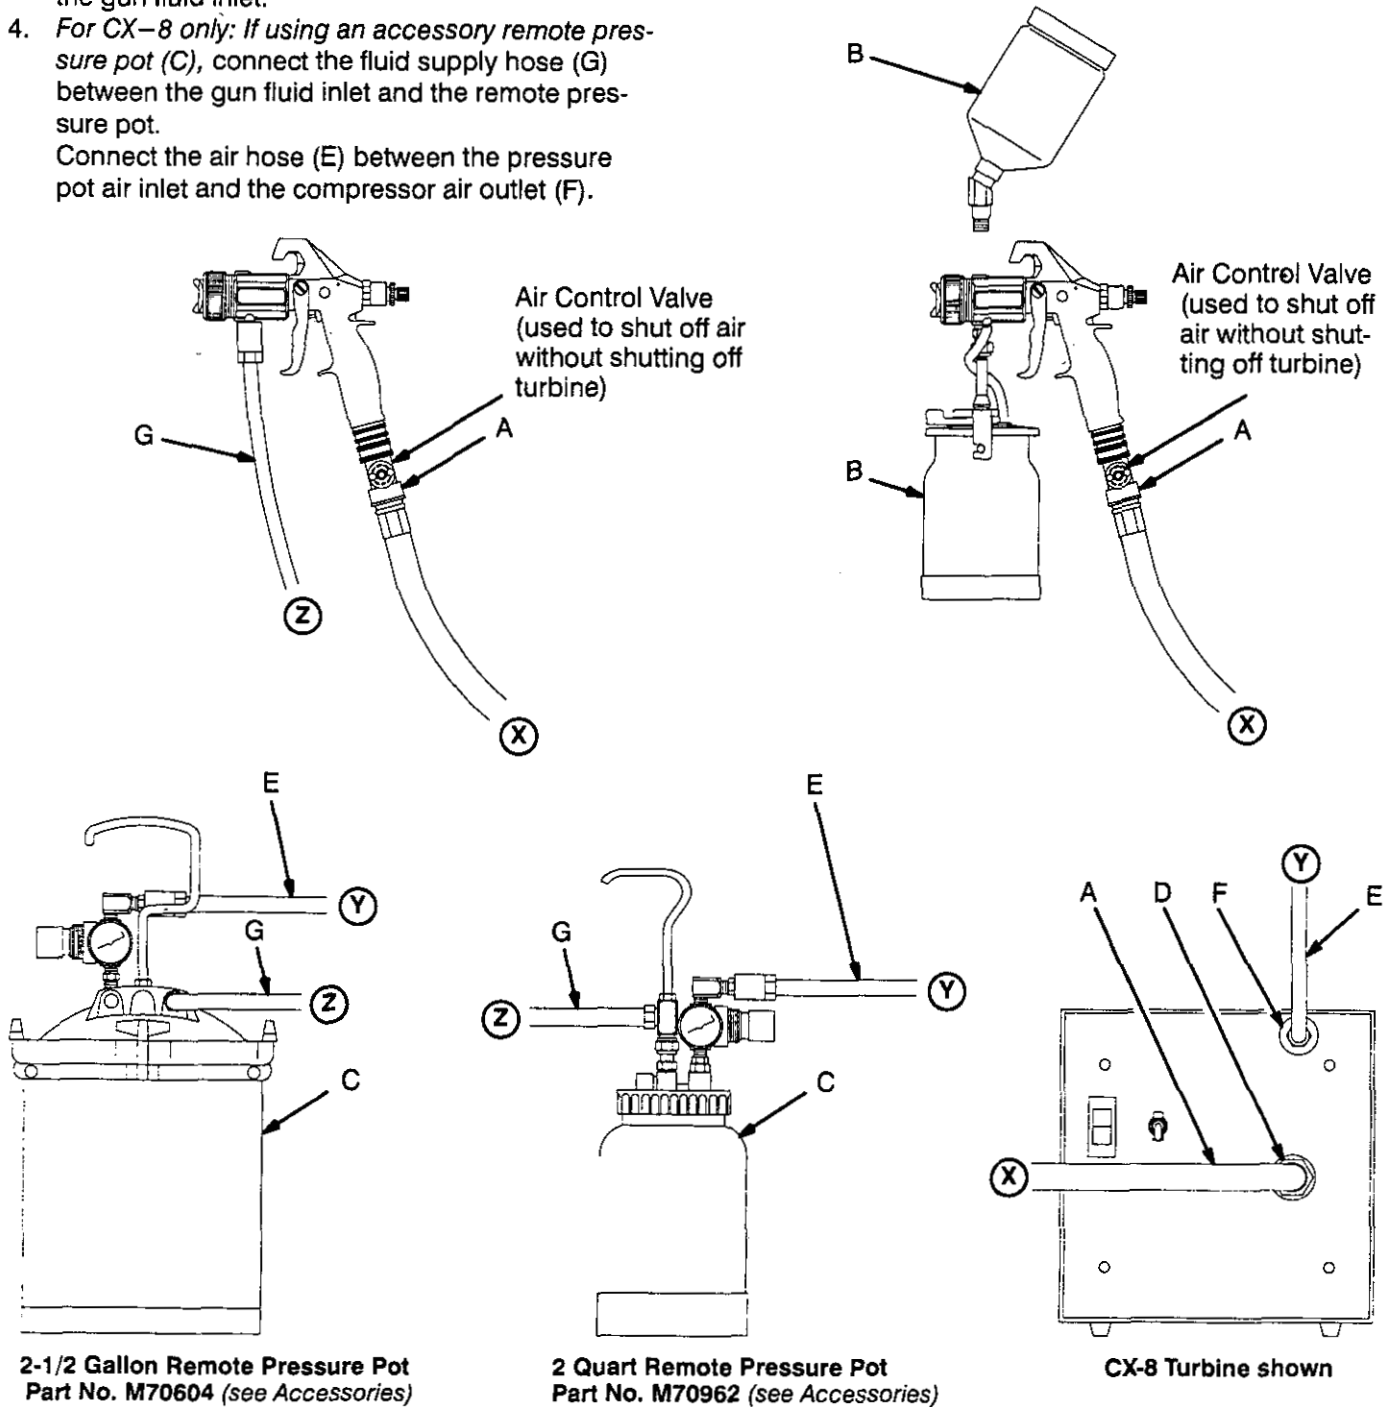

Fig. 1
2. Connect the gun air supply hose (A) between the turbine air outlet (D) and the gun air inlet. **DO NOT** use a wrench to tighten connections; hand-tighten only. See Fig. 1.
3. *If using a spray gun cup (B),* connect the cup to the gun fluid inlet.
4. *For CX-8 only: If using an accessory remote pressure pot (C),* connect the fluid supply hose (G) between the gun fluid inlet and the remote pressure pot. Connect the air hose (E) between the pressure pot air inlet and the compressor air outlet (F).
- The circled letters in Fig. 1 indicate hose line connections.